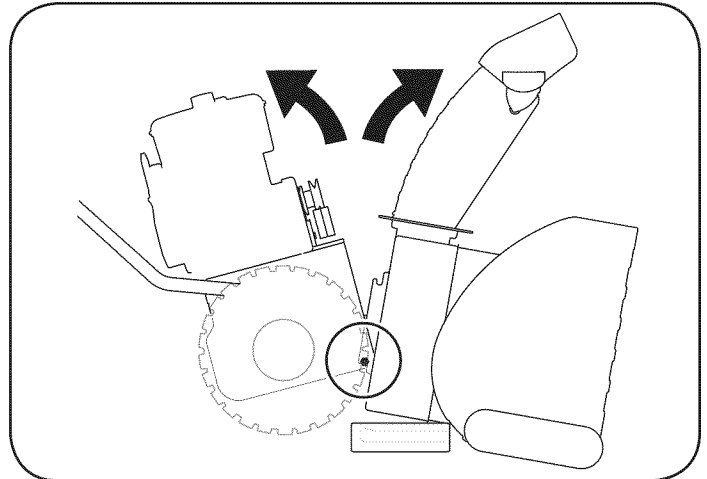

Figure 31
5. Place a block of wood underneath the auger housing as shown in Figure 31 and separate auger housing from the frame by tilting the housing forward and pulling up the handles.